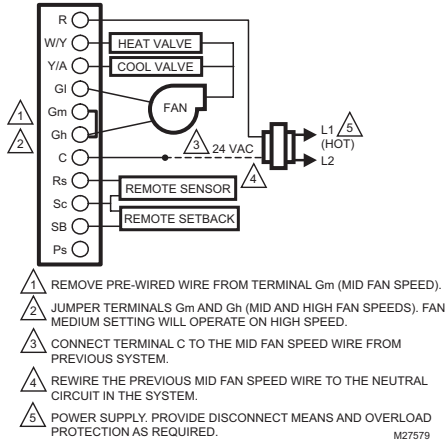

Fig. 21. Wiring diagram when missing a wire for electromechanical retrofit (24 Vac shown).
- TB8575A1000 model, which is 24 Vac powered. Refer to Fig. 15 – Fig. 21, beginning on page 8.